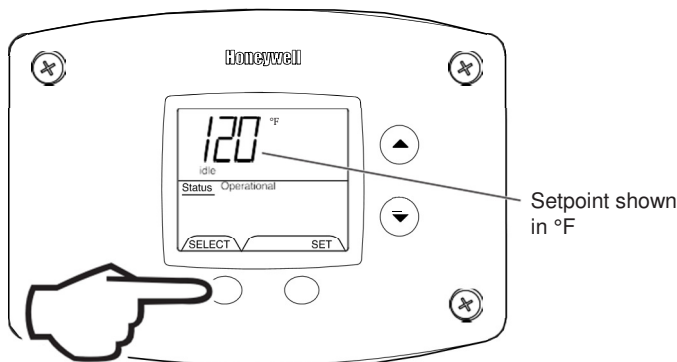

Figure 24
5. Pressing 'SELECT' button will return display to setpoint in format selected (°F or °C) immediately (Fig. 24).